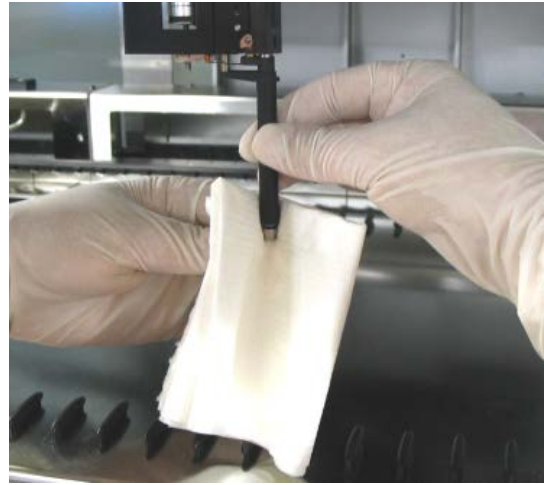

Fig. 41.: Cleaning the Stop Disk and O-Rings
16. Clean the stop disk and the O-rings (outer part of the pipetting heads, see Fig. 41.: Cleaning the Stop Disk and O-Ring) with a lint-free cloth soaked in MICROLAB Disinfectant Spray.